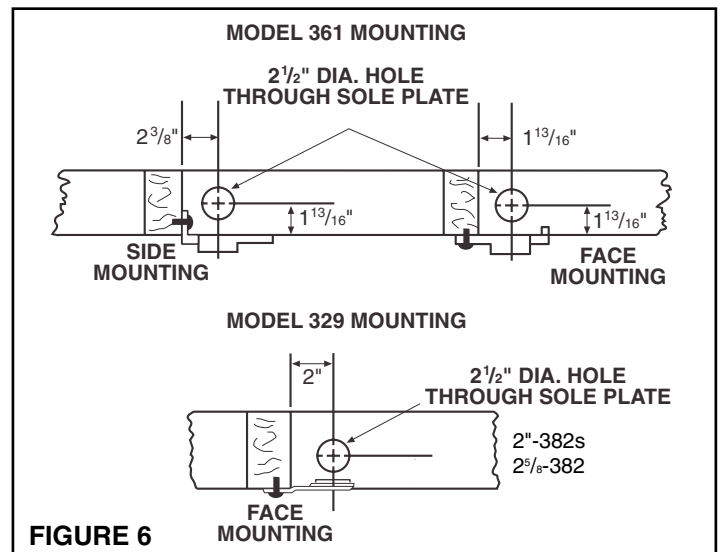

FIGURE 6
1. Cut a 2½" diameter hole in sole plate, header or stud directly in line with opening of inlet bracket fitting. **Note Figures 6 and 4 for center line dimensions.**